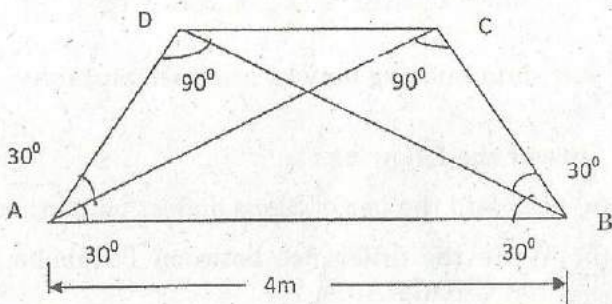

Figure 1
2. A frame shown in Figure 1 has sectional area equal to 3500 mm^2 for all the members. The member AB was found to be 0.003 mm shorter than its correct length at the time of assembling. Find the forces in the members, if the member AB is forced in position. Take $E = 2 \times 10^5 \text{ N/mm}^2$.